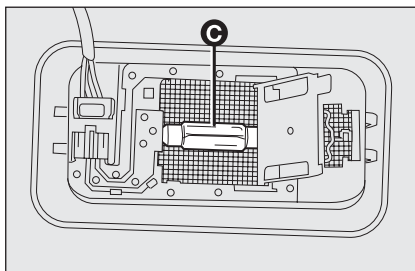

fig. 42
- replace the bulb **C**-fig. 42 releasing the side contacts, insert the new bulb and make sure that it is correctly clamped between the contacts;